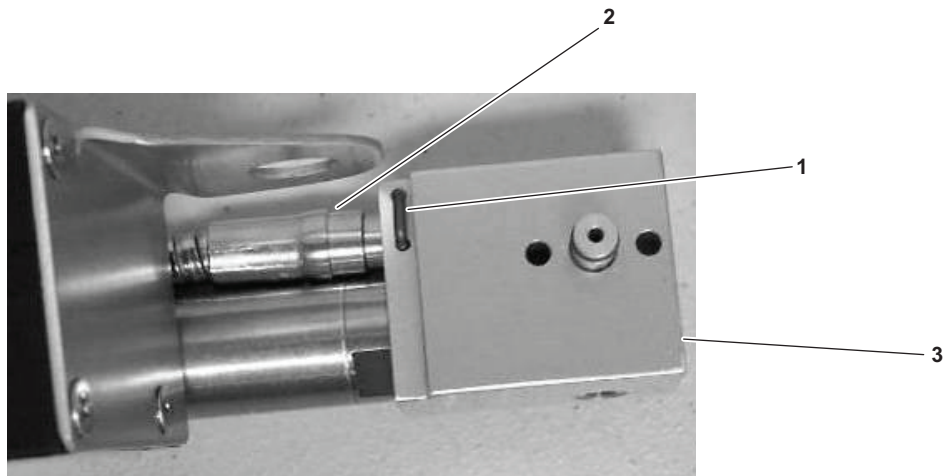
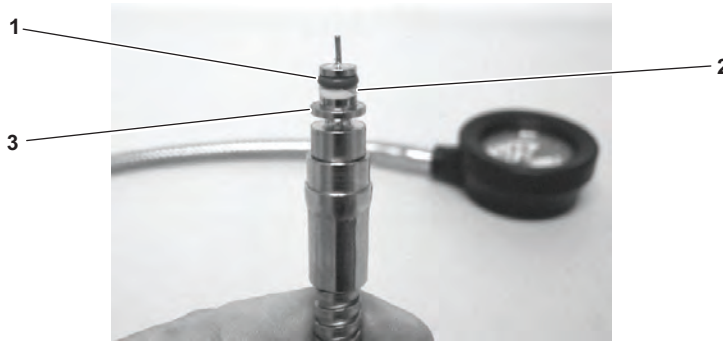
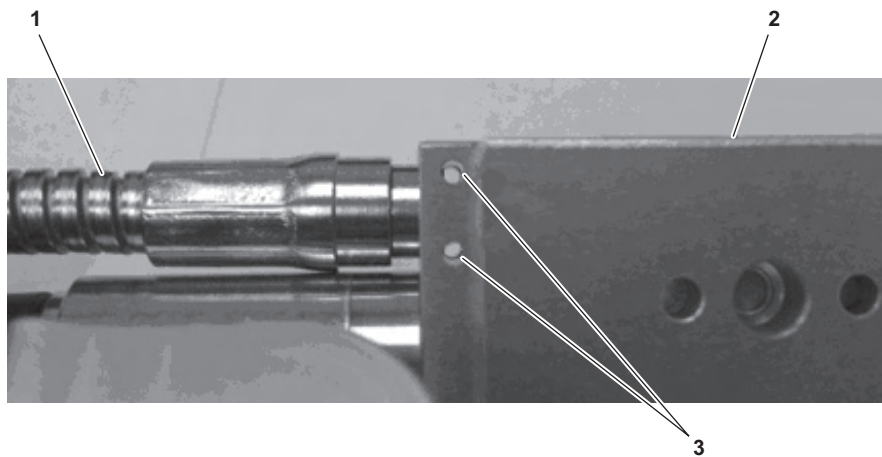

Figure 6-32. Remove Remote Pressure Indicator High-Pressure Hose
Figure 6-33. Remote Pressure Indicator Preformed Packing and Packing Retainer
Figure 6-34. Retaining Clip Holes
- (8) Remove the retaining clip (figure 6-32, item 1) securing the remote pressure indicator high-pressure hose (figure 6-32, item 2) to the Visualert mounting block (figure 6-32, item 3) with needle nose pliers.
- (9) Remove the remote pressure indicator high-pressure hose (figure 6-32, item 2) from the Visualert mounting block (figure 6-32, item 3). Ensure that cleanliness is maintained IAW PMCS (Chapter 4).
- (2) Inspect the retaining clip (figure 6-32, item 1) for cracks, bends, or mushroomed ends. Replace as required.
- (3) Inspect the preformed packing (figure 6-33, item 1) and the packing retainer ring (figure 6-33, item 2) on the remote pressure indicator high- pressure hose for nicks, cuts, wear and tear, or foreign debris. As necessary, remove and replace IAW paragraph 6.1.5.
- (4) Install the remote pressure indicator high-pressure hose (figure 6-34, item 1) fully into the Visualert mounting block (figure 6-34, item 2). Ensure that the hose groove (figure 6-33, item 3) is aligned with retaining clip holes (figure 6-34, item 3) and that the retaining clip holes are unobstructed.
Install the retaining clip into bottom of the Visualert mounting block as shown in figure 6-32. Failure to comply with this caution may result in damage to the equipment.
- (5) Install the retaining clip (figure 6-32, item 1) into the retaining clip holes (figure 6-34, item 3) to secure the remote pressure indicator high-pressure hose (figure 6-34, item 1).